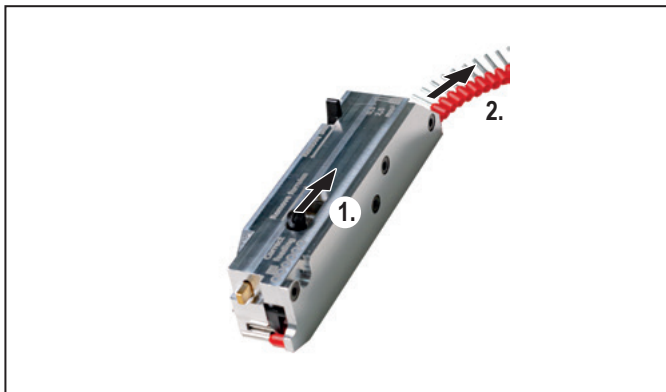

Figure 6.5 Removing the wire-end ferrules
- Unbolt the interlock on the transport unit and pull out the wire-end ferrule strip, see Figure 6.5.